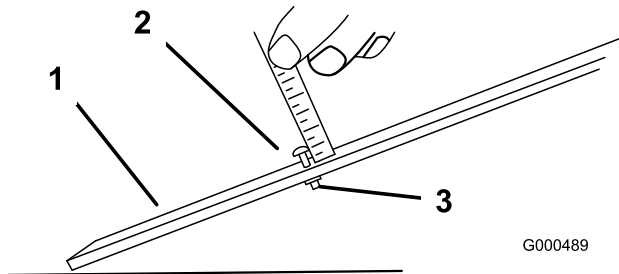

Figure 15
2. Loosen the nut on the gauge bar and set the adjusting screw to the desired height-of-cut (Figure 15). The distance between the bottom of the screw head and the face of bar is the height-of-cut.